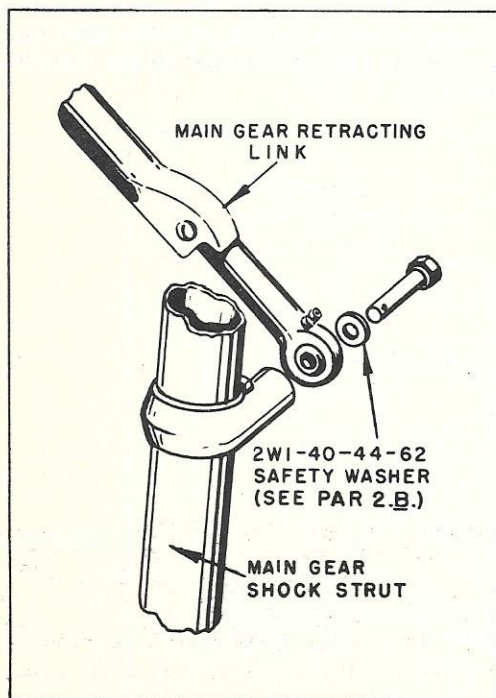

Figure 2
(1) Install safety washer, part No. 2W1-40-44-62, on left and right main landing gear retracting link strut attaching bearing in lieu of washers, part No. AN960-1016. (See figure 2.)